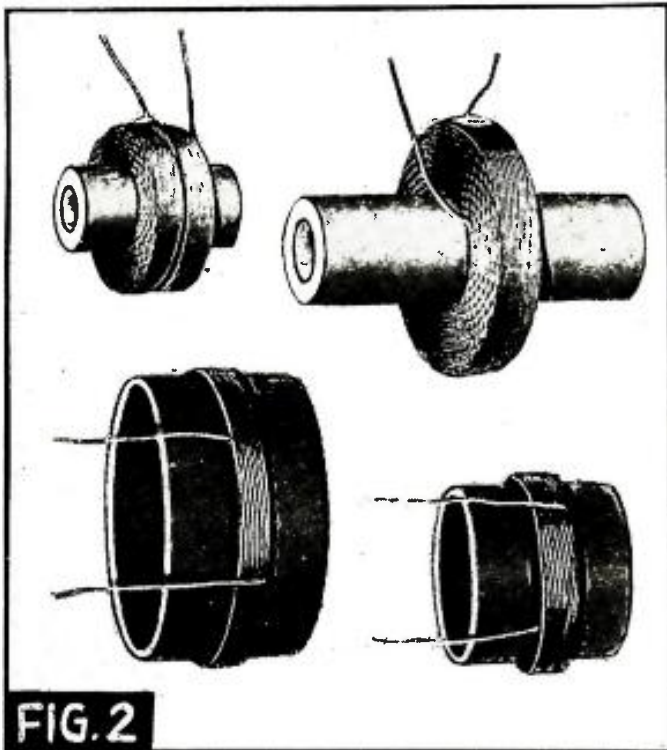

FIG. 2
**(FIG. 2) ALL HEATERS MAINTAINED AT HIGH AVERAGE D.C. VOLTAGE**
to maintain the average heater voltage at this value. Connections of the power supply and heaters are shown in Fig. 2.
In Fig. 2 for example the total voltage from any part of the rectifier heater to its cathode cannot exceed 75 volts while in an ordinary series heater circuit it may reach 300 volts. Such conditions are too favorable for ionization.
The following section is a step-by-step set of directions for replacing a defective primary on a radio-frequency coil. A typical group of replacement Primary Windings is shown in Fig. 2. Some sections of the directions may seem obvious when read, but may easily be overlooked until too late if the task of replacing a defective primary is started without careful consideration of each step, in sequence, because once a coil has been torn apart it may be too late to observe certain details, that it may be necessary to know, in order to properly complete the job.